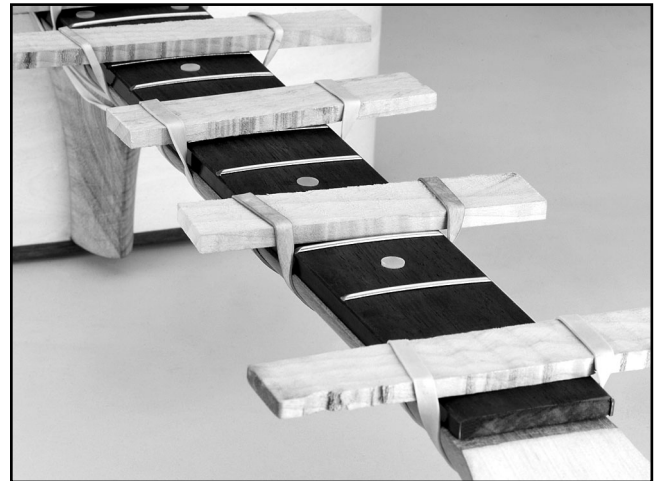

Figure 7. Securing the fingerboard to the neck.
2. Using rubber bands and small sticks of wood, secure the fingerboard to the neck with a thin, even layer of wood glue (**Figure 7**). Note—*Make sure the fingerboard is centered across the width of the neck and that the 14th fret is centered over the neck to body joint.*